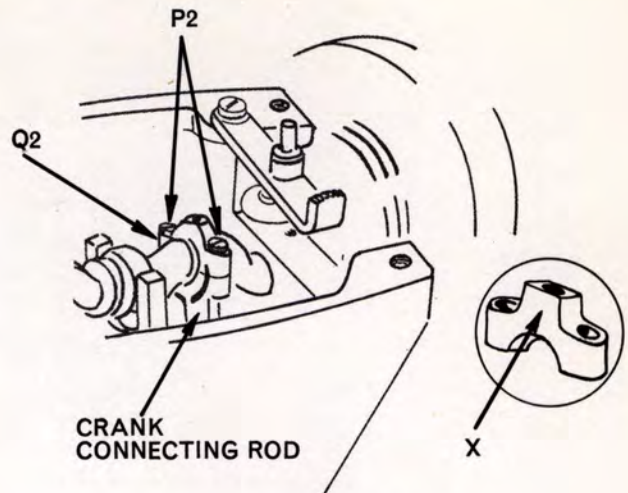

Fig. 28. Crank Connecting Rod.
2. Remove cap screws P2 and remove cap Q2. (Note position by shape of boss X, Fig. 28, for replacement).